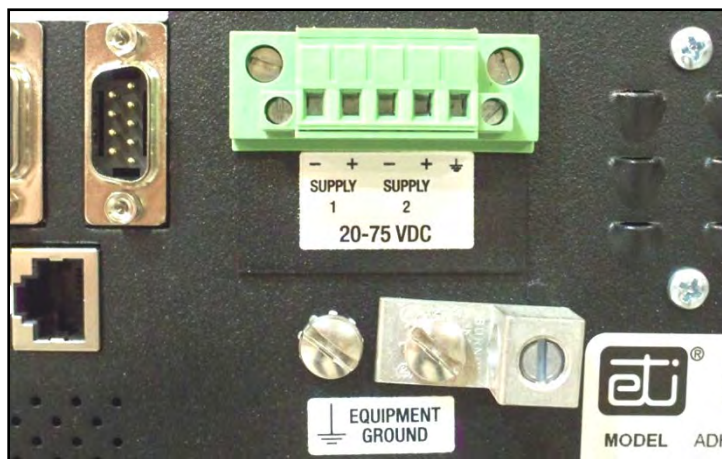

Figure 7. ADH NETCOM DC REAR PANEL DETAIL.
6. For AC units, after connecting the ground wire, make sure that the unit power switch is in the OFF or “O” position, then plug in the power cable to a surge protecting electrical outlet power strip. Leave the power switch in the OFF position. On DC units, there is no power switch so the unit is functional as soon as the DC power cable is connected. Refer to Figure 7.